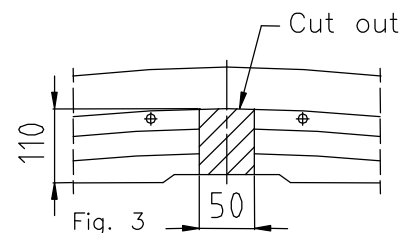

Fig. 3
3. To the left and right chassis member slip sleeve $L=85$ mm (pos. 10), see fig.
4. To drilled holes put sleeves $L=51,5$ mm (pos. 9).
5. To the inside of chassis members and rear part of the car put brackets (pos. 4 and 5) and fix using bolts $M10 \times 120$ mm (pos. 12) through sleeves and bolts $M10 \times 35$ mm (pos. 14) through nuts on the jib (pos. 8).
6. Put the main bar of the towing hitch (pos. 1) on protruding elements (bolts) of removed metal reinforcement and fix using original nuts $M8$ (from reinforcement) and using $M10 \times 90$ mm (pos. 13) - see fig.
7. Elements of the towing hitch (pos. 6 and 7) fix loosely to the original tow handle, and next through holes (pos. A) of ball brackets fix using bolts $M10 \times 35$ mm (pos. 14).
8. Fix tow-ball (pos. 2) with socket plate (pos. 3) using bolts $M12 \times 75$ mm (pos. 11).
9. Assemble a cover plate and a bumper (cut out its fragment – see fig. 3 and 4).